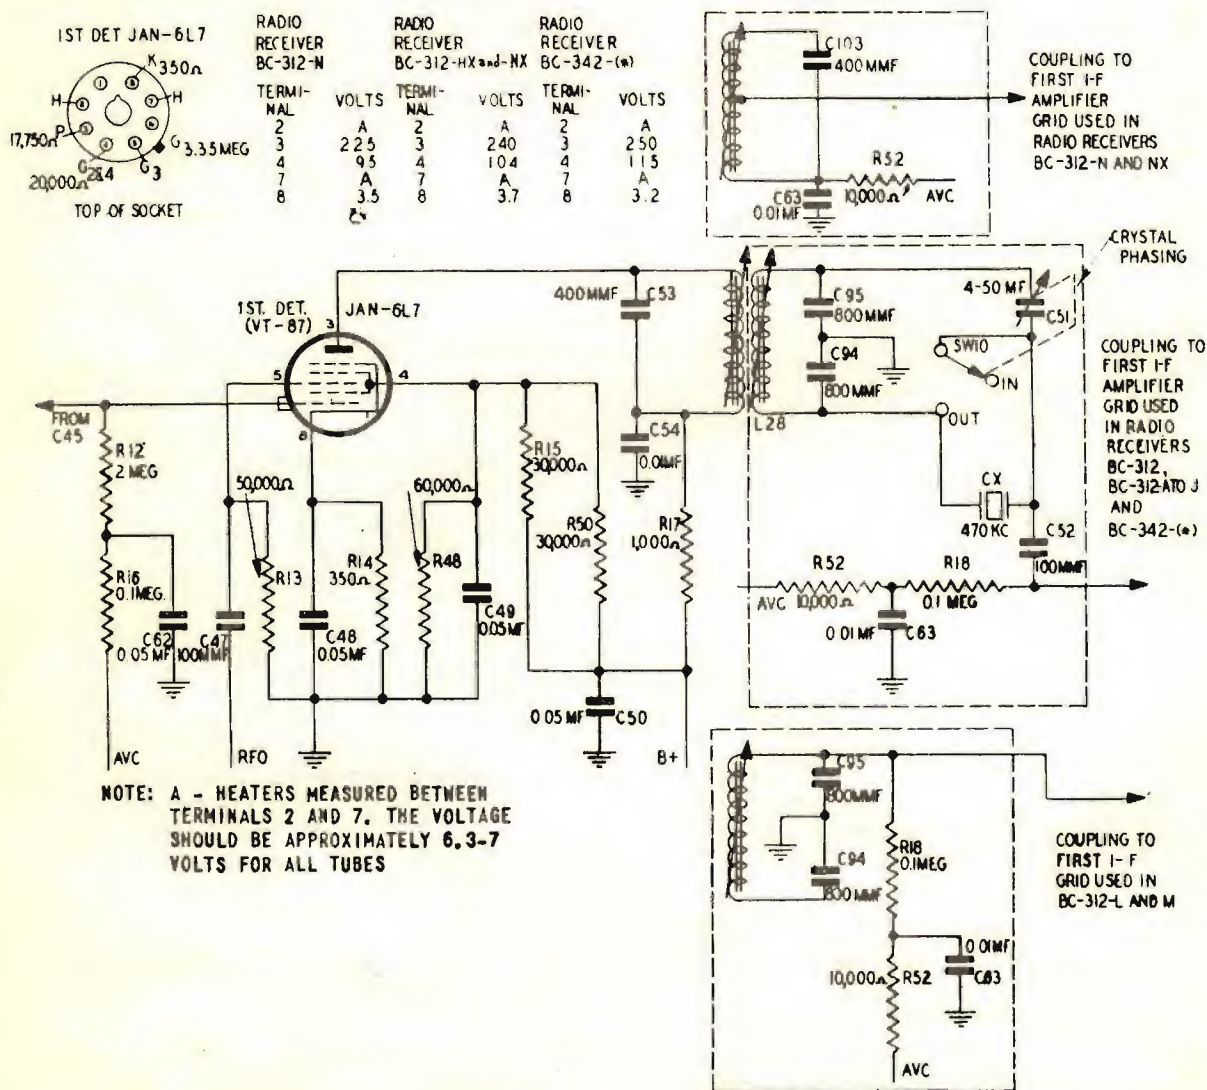

Figure 25. First detector, schematic diagram.
b. **VOLTAGE AND RESISTANCE MEASUREMENTS.** The voltage and resistance measurements shown in figure 25 are made in the manner and under the conditions listed in paragraph 42b.